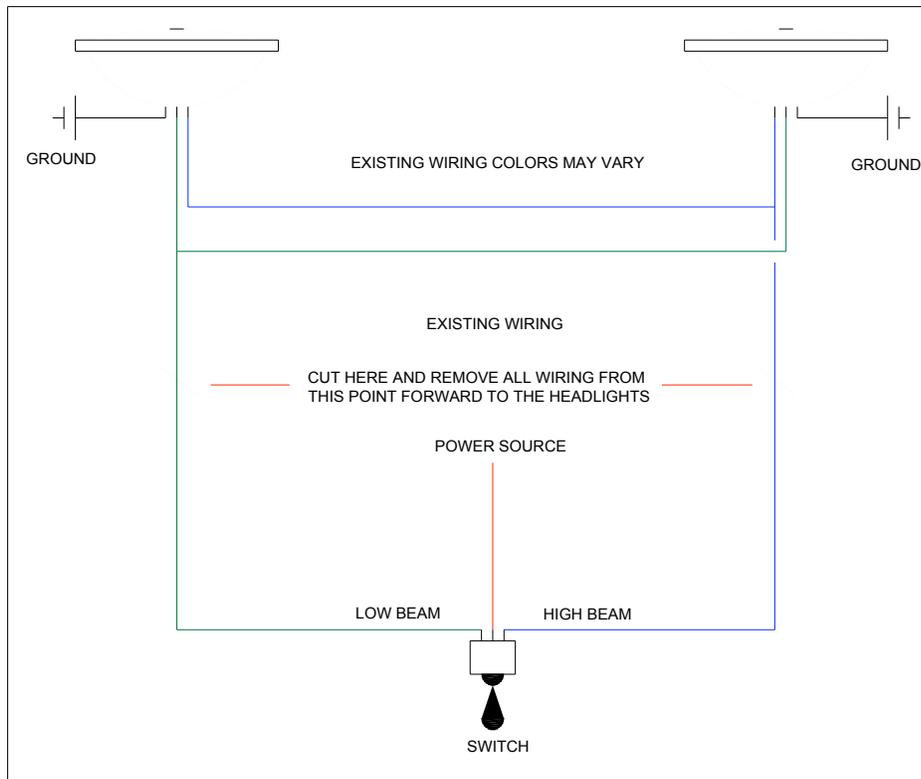

Figure 1.
- 2) Start by removing the old headlight harness from the car (figure1). Make the cut in the existing harness as close to the dividing point (where the wire is divided for each headlight) as possible. These wires will be cut to length later.